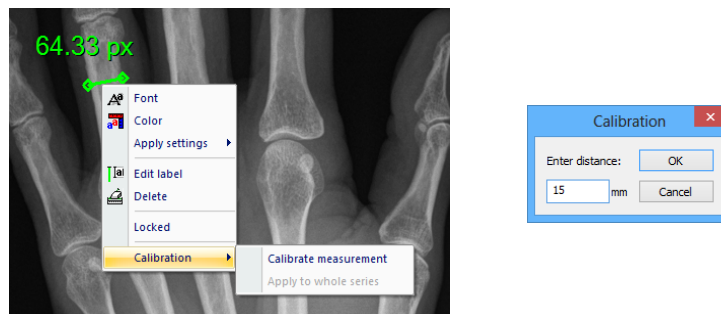

Figure 229 – Calibration context menu and the Calibration dialog
To activate calibration, select the **Calibration** item (see Figure 229) in the **Annotations** context menu, which is displayed by pressing the mouse context button on the Distance measurement.
- **Calibrate measurement** - to open the **Calibration** dialog in order to define the calibration (see Figure 229).